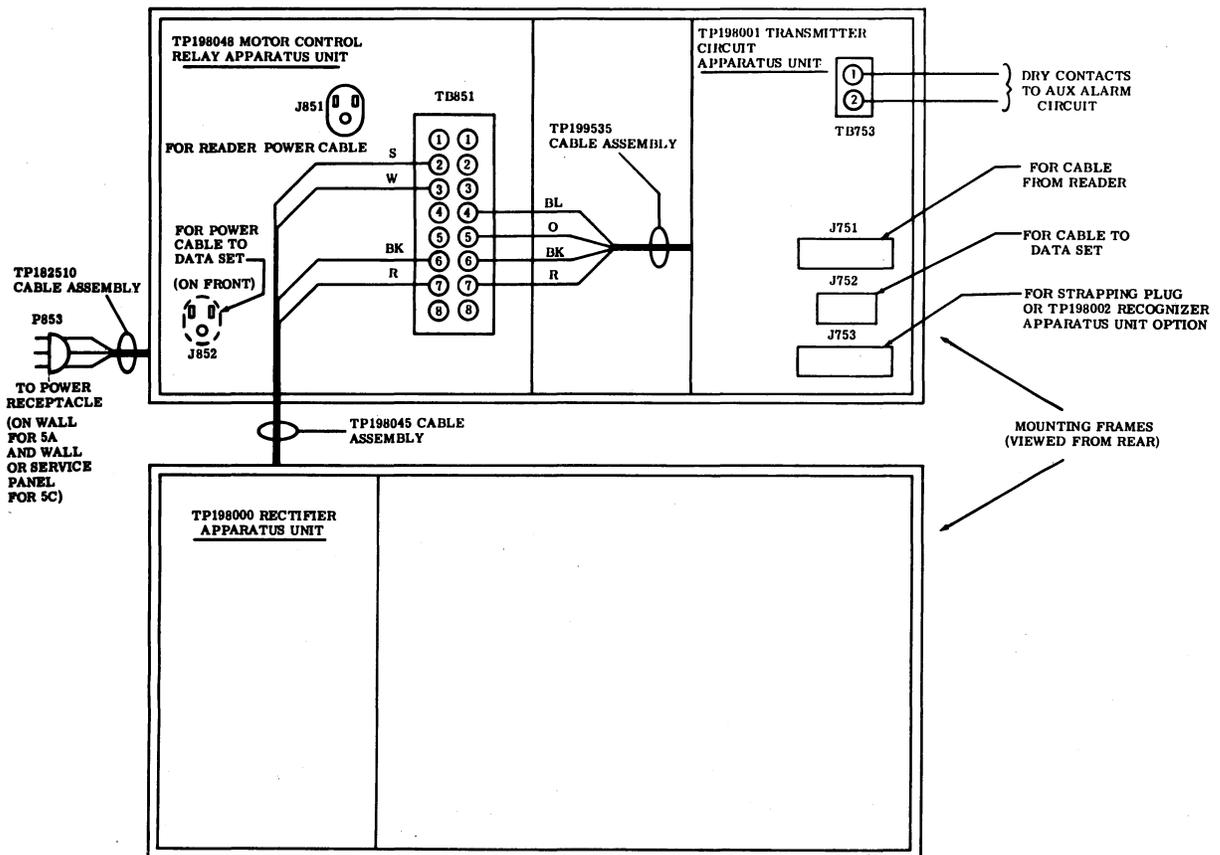

Figure 4 - Connectors, 5A and 5C Tape Senders
3.28 Connect the reader power cord into the TAPE READER outlet on the back of the motor control relay apparatus unit (Figure 4). Plug the multiple conductor cable from the tape reader to the 37-pin receptacle (J751) on the transmitter apparatus unit (Figure 4). The plug is fitted with a slide latch locking device.
- 3.29 Make connection between the 25-pin receptacle J752 on the transmitter apparatus unit and the receptacle at the data set. Connect the power cord from the data set to the DATASET receptacle (J852) at the TP198048 motor control unit (Figure 4).
3.39 Disconnect the reader power cord from the READER POWER outlet (J851, Figure 4) on the motor control relay unit and plug it into any convenient ac outlet. Note that the reader runs without excessive noise or rattles.